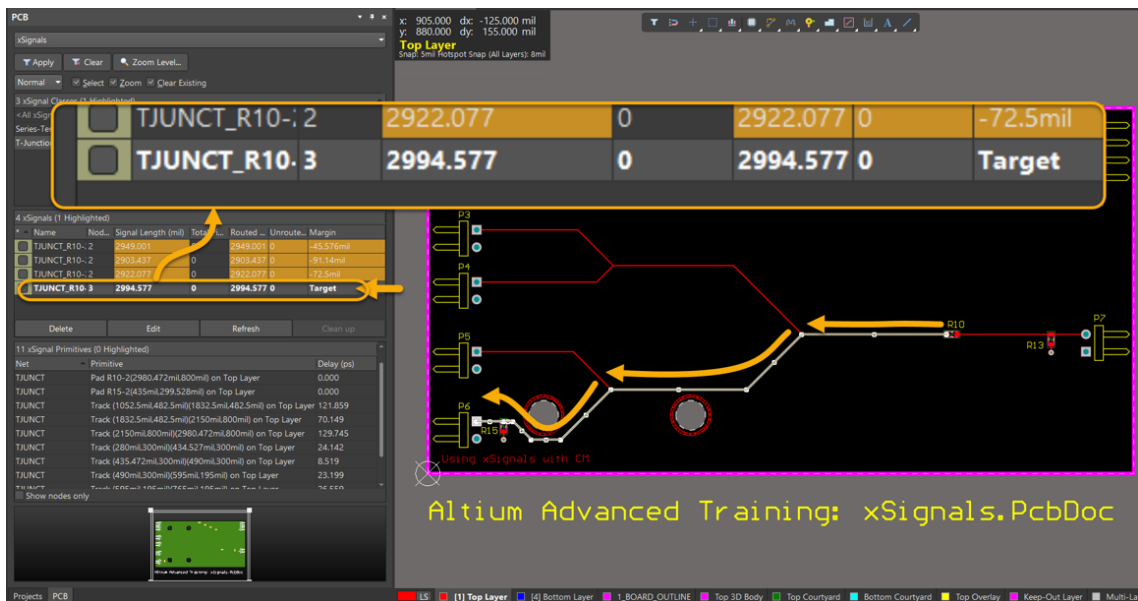

Figure 24. One signal path from the T-Junction xSignal class
- In the following xSignals pane, simply select each individual xSignal from TJUNCT__R10-2_P3_1 to TJUNCT__R10-2_P6_1 to see the signal path, as shown in Figure 24.